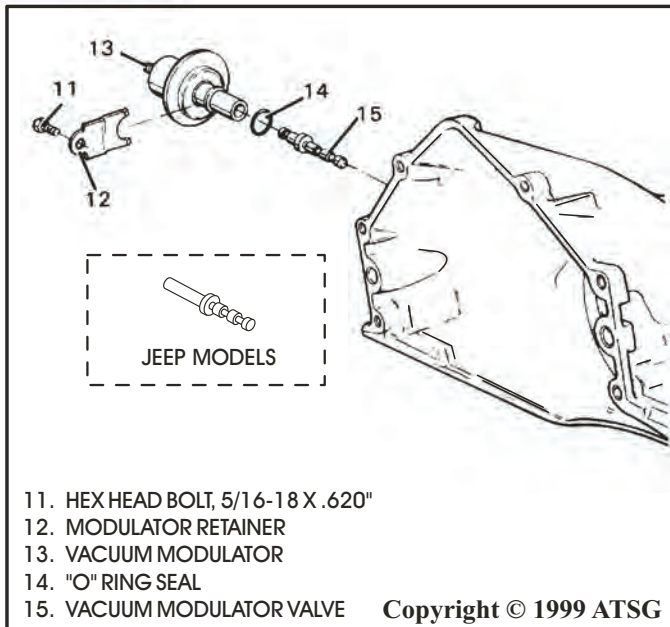

Figure 128
70. Lubricate modulator valve (15) with fluid and install modulator valve into transmission case as shown in Figure 128.
**Note: Jeep models use a modulator valve that has a longer stem on the modulator side, as shown in Figure 128, and requires modulator with the bellows.**
71. Install a new vacuum modulator with a new "O" ring into case, as shown in Figure 128.